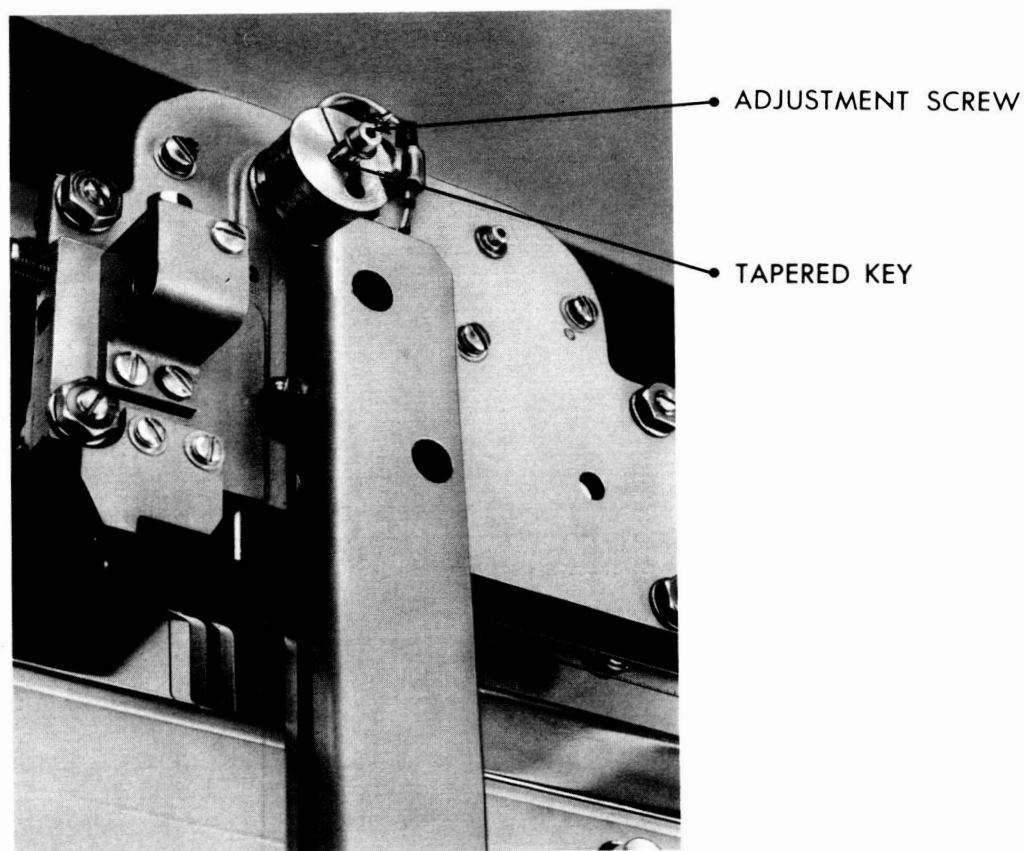

Figure 3-10. Drive Drum Circumference Adjustment
- a. To expand the drum (increase arm travel) turn the adjustment screw in the end of the drive drum shaft clockwise. This pushes two tapered keys into the drum, expanding it slightly. (See Figure 3-10).